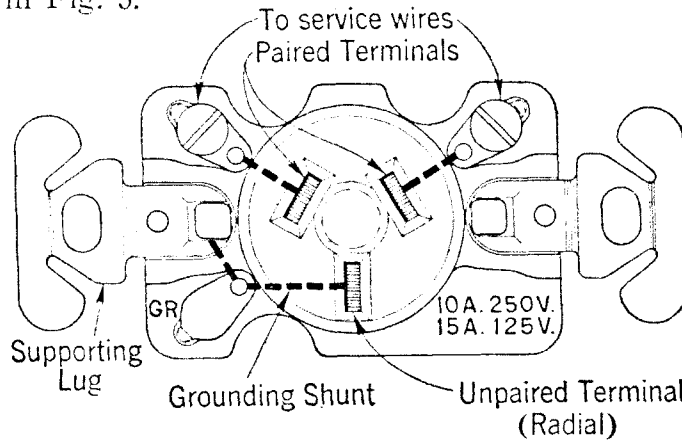

Fig. 3—3-Wire Flush-Type Receptacle With Grounding Shunt
6.08 The Hubbell 7189, 3-way flush-type plug receptacle or its approved equivalent, is grounded by a shunt from the unpaired terminal to the outlet box through the supporting lugs as shown in Fig. 3.